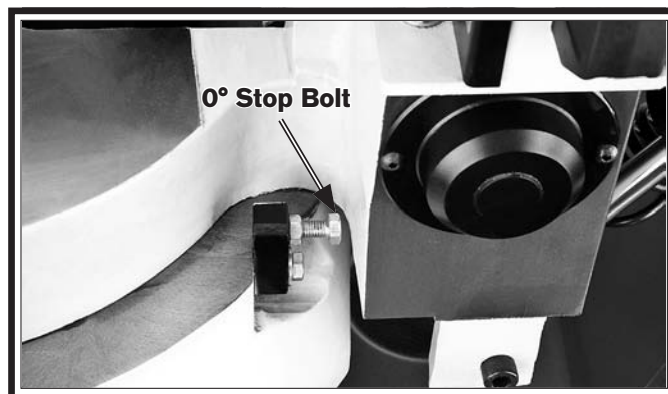

Figure 42. 0° Angle stop.
2. Rotate the headstock to the right approximately 10° , engage the 0° angle stop (**Figure 42**) by flipping it up, then rotate the headstock to the left until it stops against the 0° stop. Tighten the headstock lock lever.